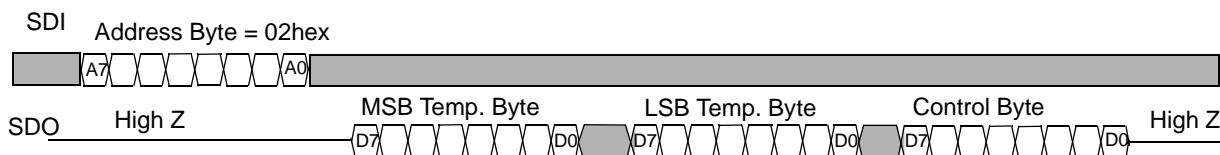

FIGURE 4-3: Serial Interface Timing Diagrams (CP=0).
TC72 has the capability to function with either an active-high or low SCK input. The SCK inactive state is detected when the CE signal goes high, while the polarity of the clock input (CP) determines whether the data is clocked and shifted on either the rising or falling edge of the system clock, as shown in Figure 4-2. Table 4-3 gives the appropriate clock edge used to transfer data into and out of the registers. Each data bit is transferred at each clock pulse, and the data bits are clocked in groups of eight bits, as shown in Figure 4-3.
Data can be transferred either in a single byte or a multi-byte packet, as shown in Figure 4-3. In the 3-byte packet, the data sequence consists of the MSb temperature data, LSb temperature data, followed by the Control register data. The multi-byte read feature is initiated by writing the highest address of the desired packet to registers. TC72 will automatically send the register addressed and all of the lower address registers, as long as the Chip Enable pin is held active.
The TC72 uses the CE, SCK and SDO lines to output the Temperature and Control register data. Figure 4-3 shows a timing diagram of the read operation. Communication is initiated by the chip enable (CE) going high. The SDO line remains at the voltage level of the LSb bit that is output and goes to the tri-state level when the CE line goes to a logic low level.
Data is clocked into the Control register in order to enable TC72's power saving shutdown mode. The write operation is shown in Figure 4-3 and is accomplished using the CE, SCK and SDI lines.